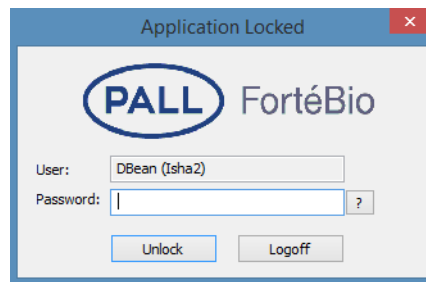

Figure 4-23: Application Locked Dialog Box
1. Click **Security > Lock Application**. The application Locked dialog box (Figure 4-23) appears and remains until you unlock it.